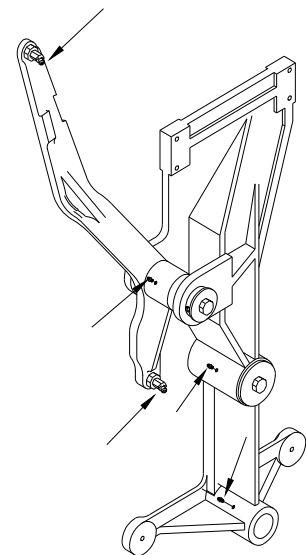

FIGURE 1
THERE ARE (5) GREASE FITTINGS LOCATED ON THE ROCKER ARM AND DIVIDER FRAME, (FIG. 1). THESE FITTINGS SHOULD BE LUBRICATED BI-WEEKLY FOR OPTIMUM BEARING LIFE.